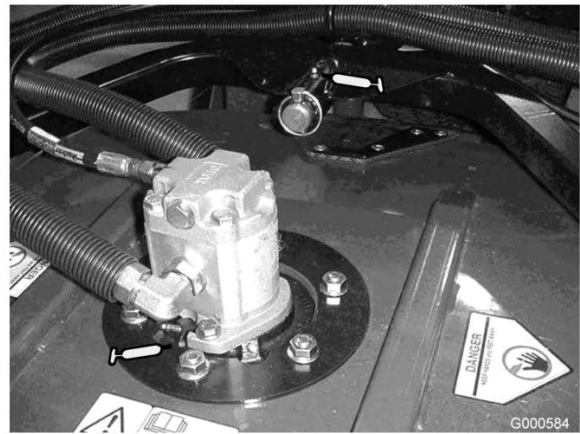

Figure 28
- Cutting unit spindle shaft bearings (1 per cutting unit) (Figure 28)
- Cutting unit carrier arm bushings (1 per cutting unit) (Figure 28)